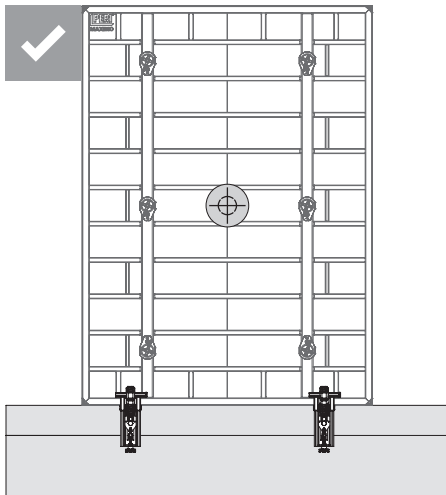
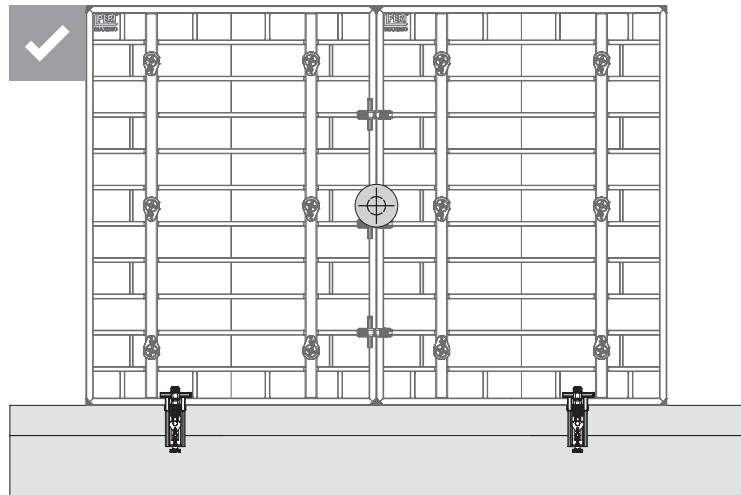

Fig. A2.08
Fig. A2.09
- An individual formwork unit must always cover two wall formwork brackets. (Fig. A2.08)
- A lifting unit must always cover two wall formwork brackets. (Fig. A2.09)
- The centre of gravity must always be between two wall formwork brackets. (Fig. A2.08 + Fig. A2.09)